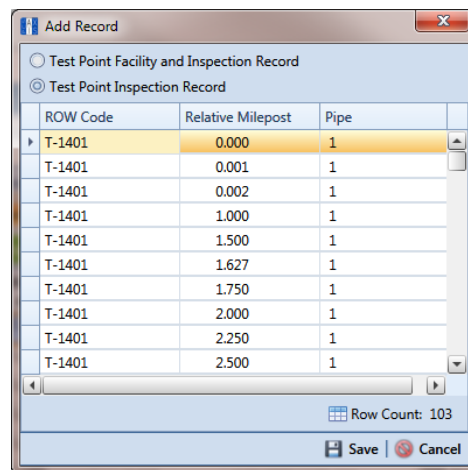

Figure 7-14. Add Record
- 6 Click **+ Add** to open the *Add Record* dialog box (Figure 7-14). Then continue with one of the following steps:
- b Select a pipeline with the facility you want to add an inspection record. For example, pipeline *T-1401* and the facility at *Relative Milepost 0.000* (Figure 7-14).